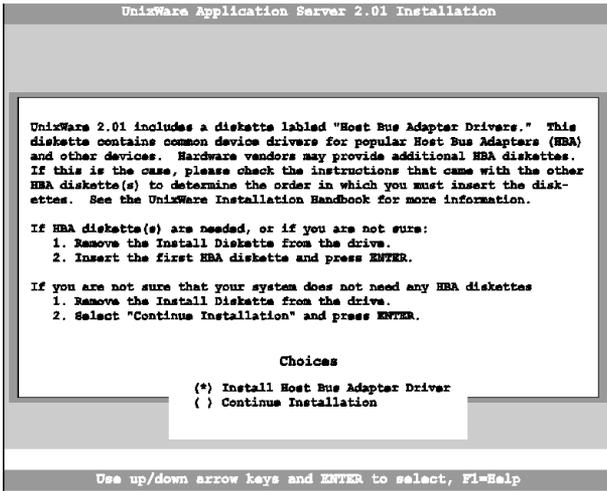

figure 11-2 Install Host Bus Adapter Drivers
2. When prompted to **INSTALL HOST BUS ADAPTER DRIVERS** (see figure 11-2), insert the "INITIO INI-9100U/9100UW DRIVER DISK 2" into drive A: press <Enter>.